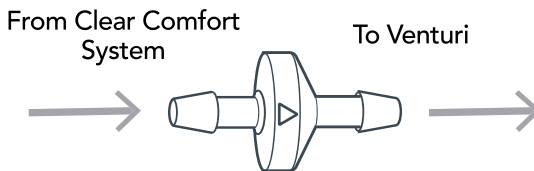

Figure 5: One-Way Air Check Valve in Long Air Tubing
- Check the CCW25's Y-Harness Cable is connected to the spa's control board. See Figure 5 for instructions.